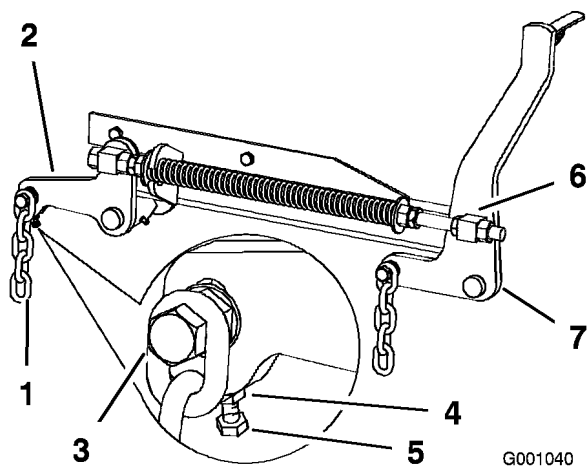

Figure 65
7. If the measurements at positions **B** or **C** are not correct, loosen the bolt attaching the rear chain to the rear support arm (Figure 65).
- Loosen the jam nut under the rear support arm and adjust the adjustment bolt to get a measurement of 3-1/8 to 3-1/4 inches (Figure 65).
- Loosen the front swivel jam nuts, at the front of the right and left swivels, approximately a 1/2 inch (13 mm) (Figure 65).
- Adjust the lift nuts on both the left and the right side of the machine to achieve 1/4 to 3/8 inch (6 to 10 mm) lower in front at **A** than in the rear at **B** (Figure 65).